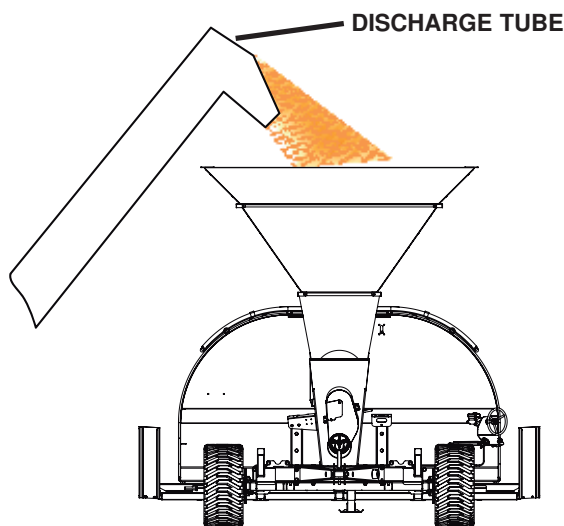

Figure 1 - Discharge tube position
1) Prepare the vehicle that will supply the grain to be bagged (usually a self-unloading grain cart). This vehicle's discharge tube should be arranged as shown in Figure 1. The grain entering the bagging machine should fall as directly as possible into the centre of the receiving hopper. Otherwise, grain might hit the opposite side of the hopper and spill out.